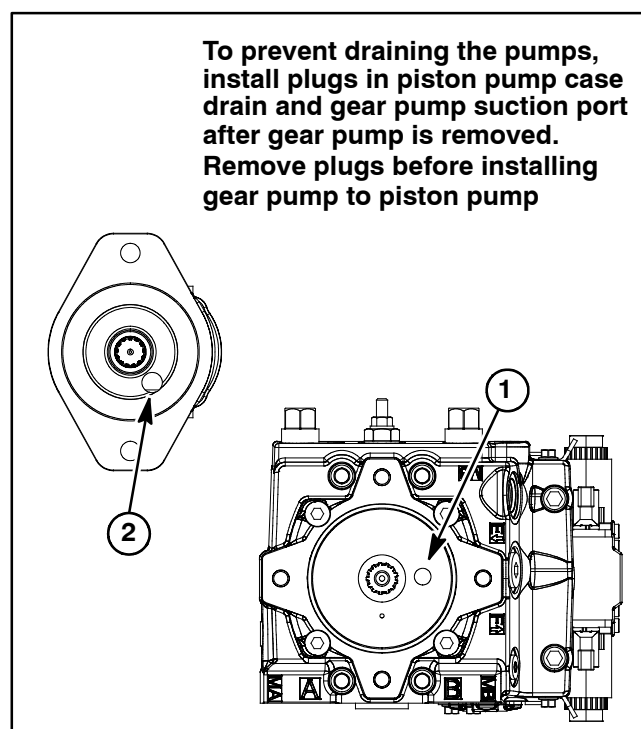
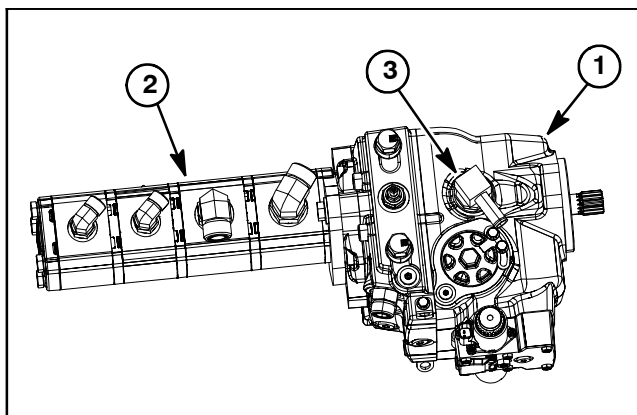

Figure 70
Figure 71
**NOTE:** A case drain exists in the piston (traction) pump and a suction port is near the input shaft of the gear pump (Fig. 70). When the gear pump is removed from the piston pump, plug piston pump case drain hole to prevent draining the piston pump.
8. Support the piston pump to prevent it from falling while removing two (2) cap screws and washers retaining pump assembly to engine flywheel plate. Carefully pull pump assembly from flywheel plate and lower it out of the machine.
**IMPORTANT:** A case drain exists in the piston (traction) pump and a suction port is near the input shaft of the gear pump (Fig. 70). Before the gear pump is installed to the piston pump, make sure that plugs placed in both of these ports are removed. Failure to remove plugs will cause excessive pressure in the piston pump and damage seals. Also, before securing gear pump to piston pump, fill piston pump housing with clean hydraulic oil through case drain hole.
6. Using labels placed during pump removal, connect wire harness connectors to the two (2) solenoid coils on left side of piston (traction) pump.
7. Fill piston (traction) pump housing with new hydraulic oil through the case drain (90° barbed fitting) at the top of the pump (Fig. 71). This will ensure that internal pump components have adequate lubrication during initial operation.